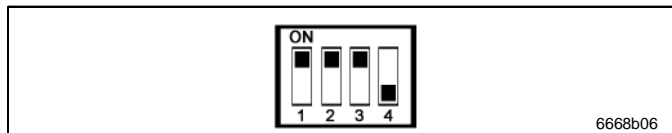

Fig. 37 DIP switch – configuration mode
- Set the DIP switches (see view Fig. 2, page 6) as shown in Fig. 37: